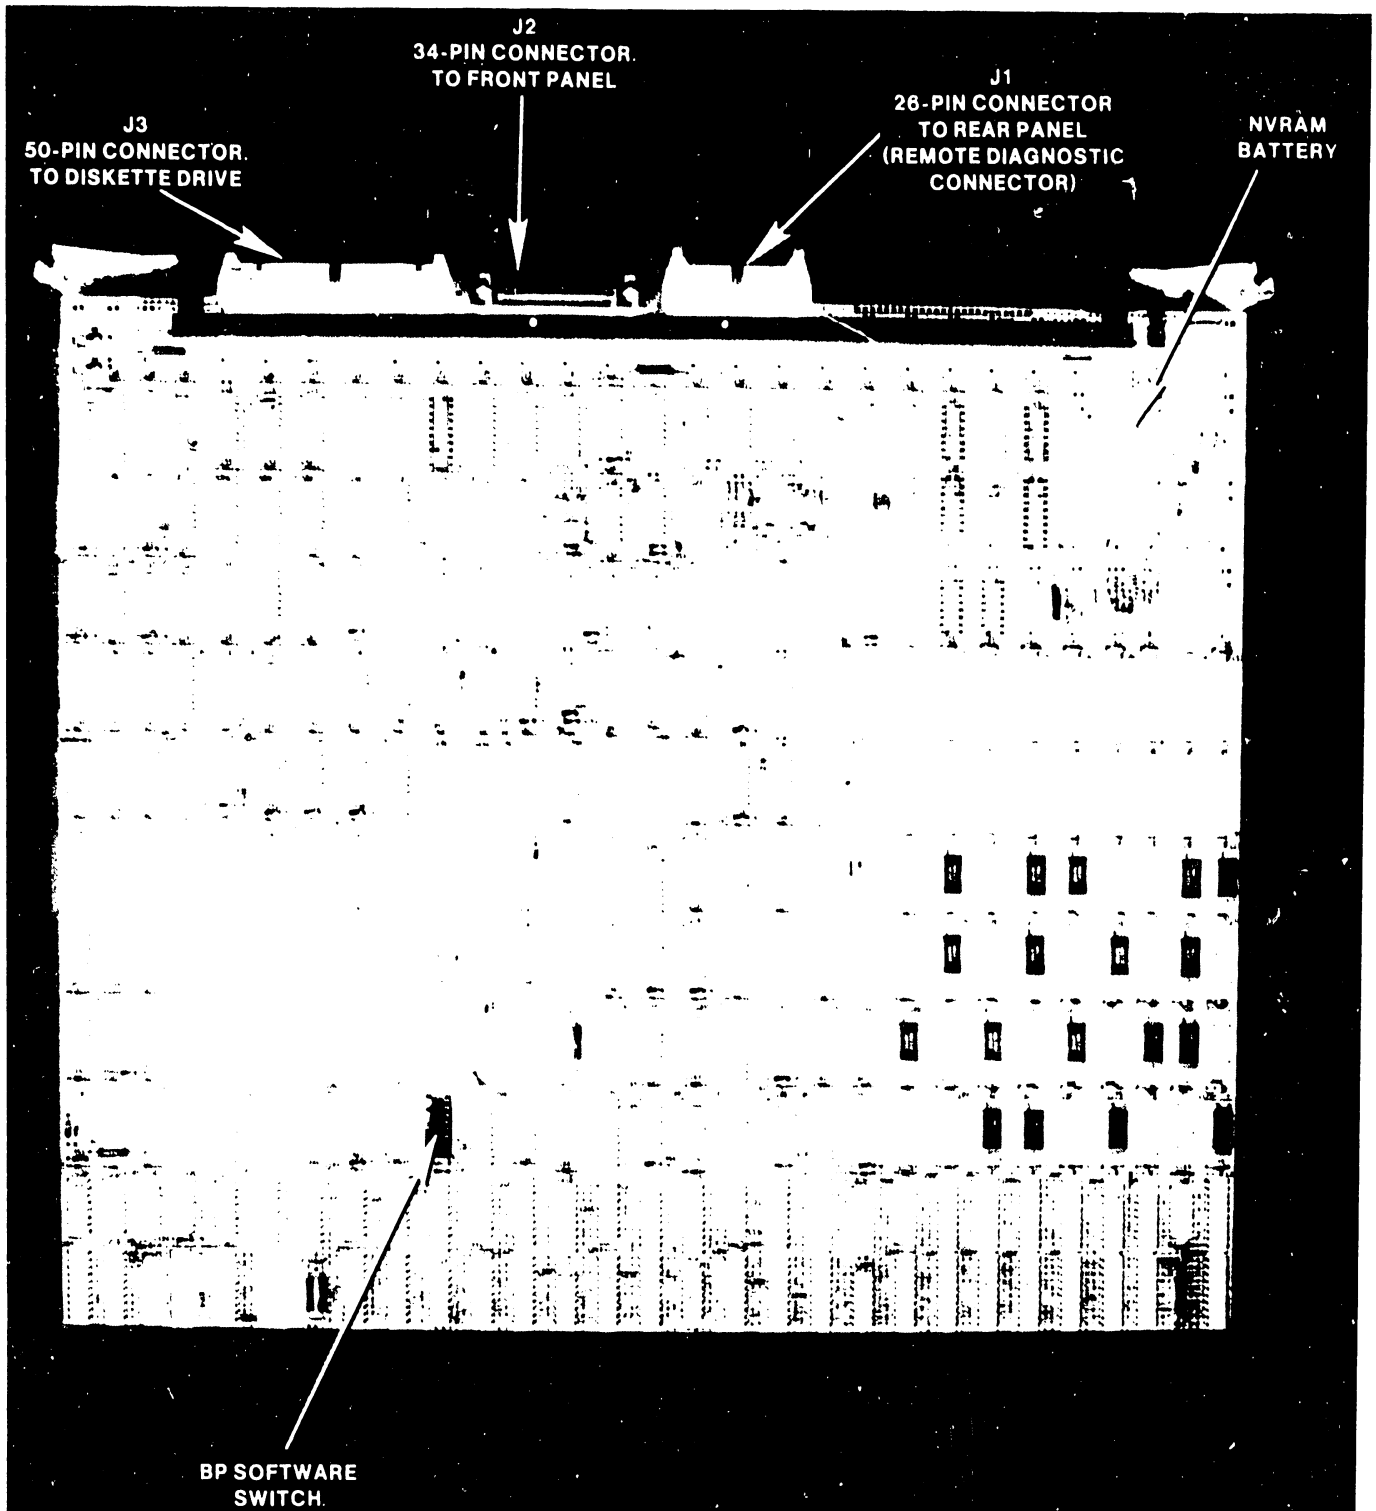

Figure C-7. 210-8304 Bus Processor Board
- d. Before removing the BP board (figure C-7) from Motherboard slot #3, disconnect the 26-pin connector from J1, the 34-pin connector from J2, and the 50-pin connector from J3 of the board.